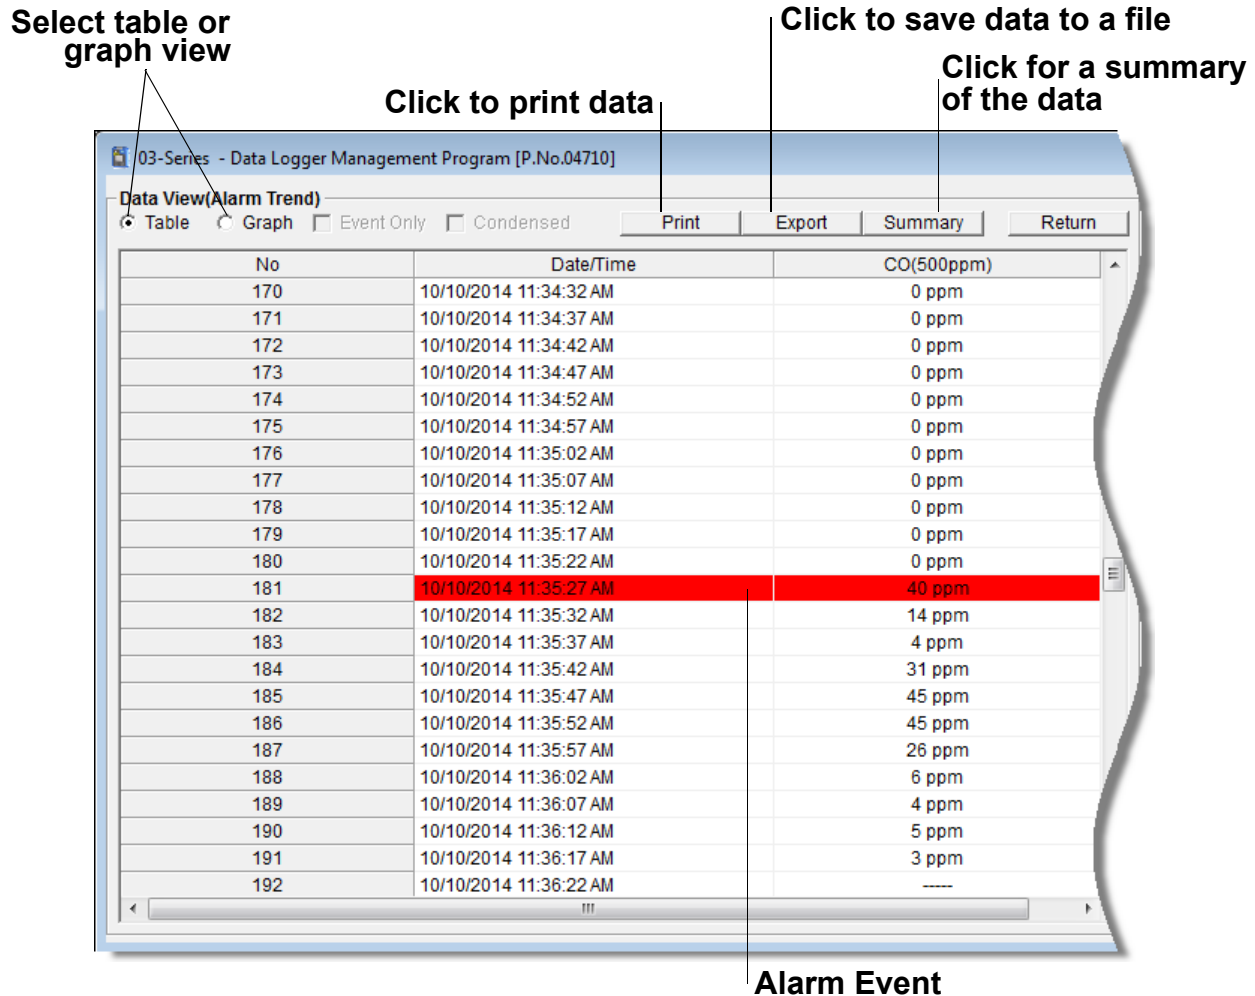

Figure 40: Alarm Trend Data in Table Format
- Alarm trend data can be viewed in either table or graph format by selecting the Table or Graph selection buttons. The example below in Figure 40 is in table format.